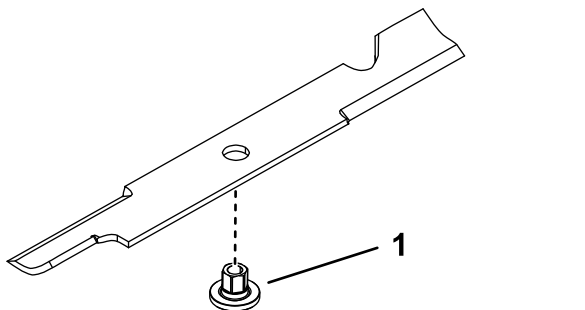

Figure 78
1. Install the bushing through the blade with the bushing flange on the bottom (grass) side of the blade (Figure 78).